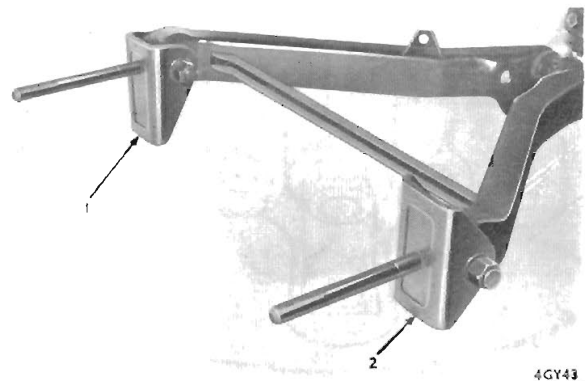

Fig. 19. Positions of lower fulcrum brackets, (1) front, (2) rear
6. Fit the brackets (1) and (2) (Fig. 19) to the inner eyes of the lower wishbone arms. Note that the bracket fitted to the front wishbone must have the longest portion below the chassis attachment stud centre line and the bracket fitted to the rearmost wishbone arm must have its longest portion above the stud centre line.
7. Fit the ball joint assembly (16) between the outer ends of the upper wishbone arms (10) and (12) and secure with bolts (15), washers (19) and nyloc nuts (20).